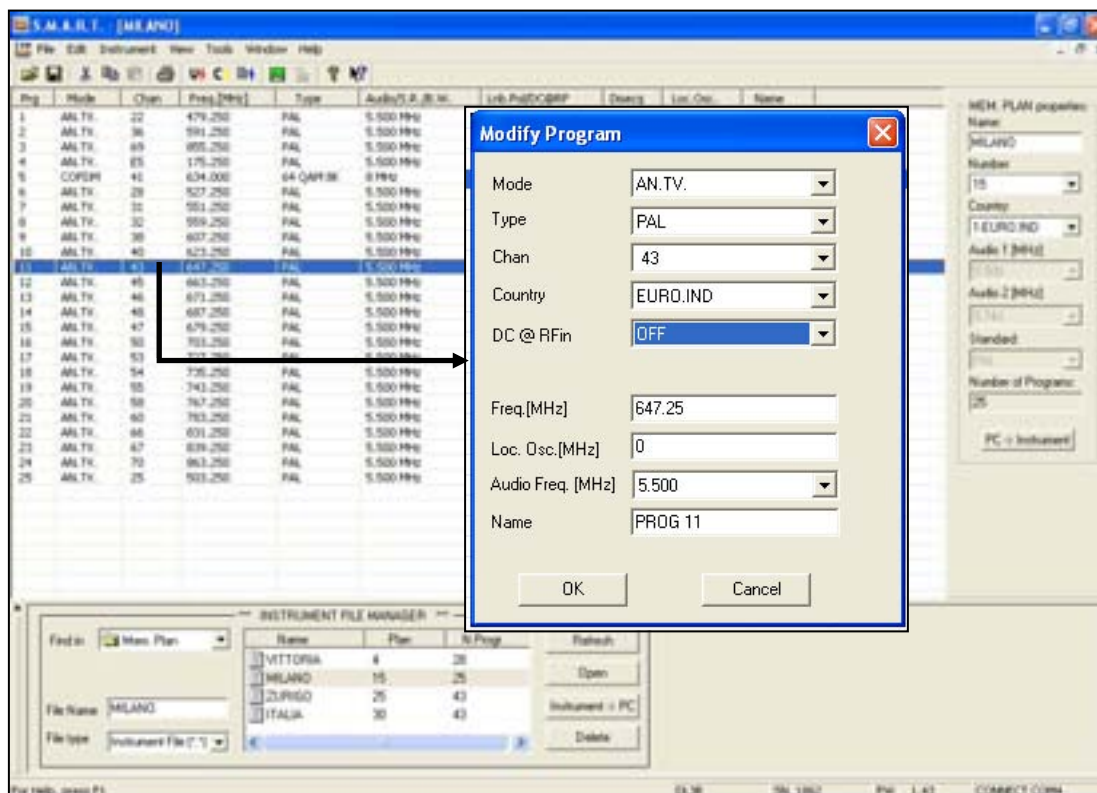

Figure 7.1
4. Open the Mem. Plan folder (see Fig. 7.1)
- c) The program opens a window where you can modify all the parameters of the chosen program (see fig. 7.1)
- b) Carry out the settings of the new program in the window that opens (see fig. 7.1),